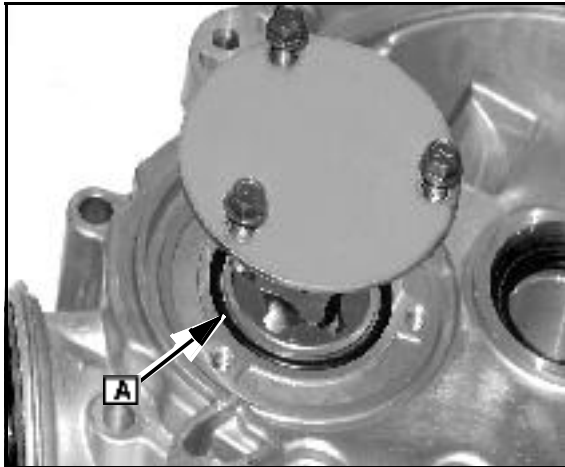

Fig. 21
1. Install new O-ring ([A] Fig. 21) in channel in sump.